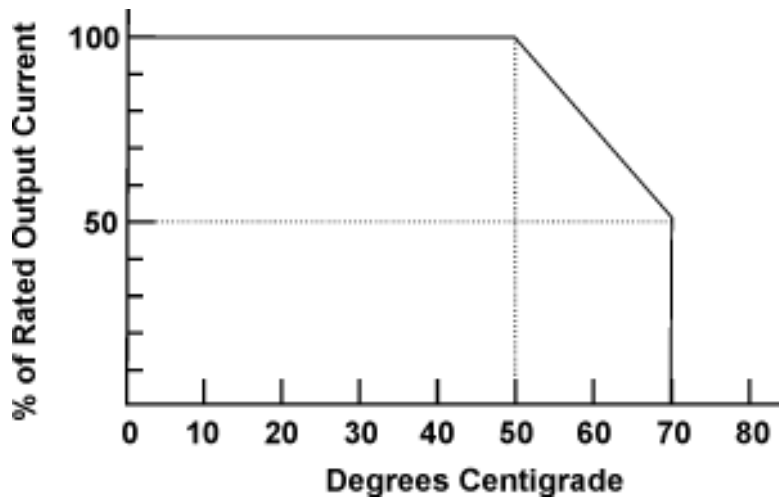

Figure 6. Rated Output Current vs. Ambient Temperature
- 13.4 **Output Power.** Maximum output current is 25A at 24 VDC, 21.4 at 28VDC or 12.5A at 48 VDC, giving a maximum output power of 600 watts. The maximum output power of a module may be drawn at up to 50°C ambient temperature. Above 50°C the output current must be derated by 2.5%/°C. See Figure 6. The maximum operating temperature is 70°C, at which the output current must be derated by 50%.